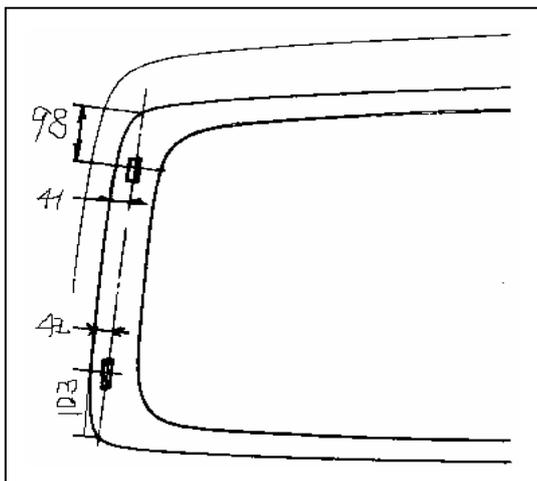

Fig. 19-28
- ③ Attach the dual lock fastener to the area with protruding mark on the tail door outer panel, see Fig. 19-28.